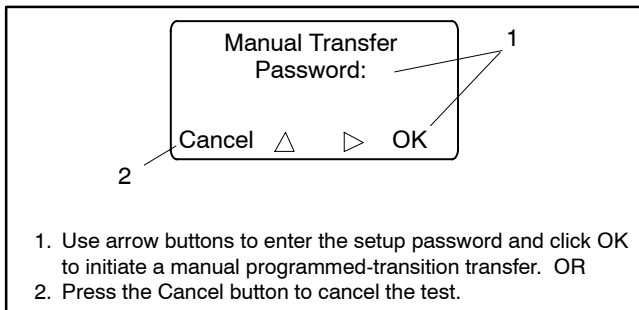

Figure 1-14 Manual Transfer Menu for Programmed-Transition Override
- If the override function is set to manual, the user can either initiate a programmed-transition type transfer (setup password required) or cancel the test sequence. See Figure 1-14. If neither action is taken, the controller will continue to check for synchronization and transfer if the sources synchronize.